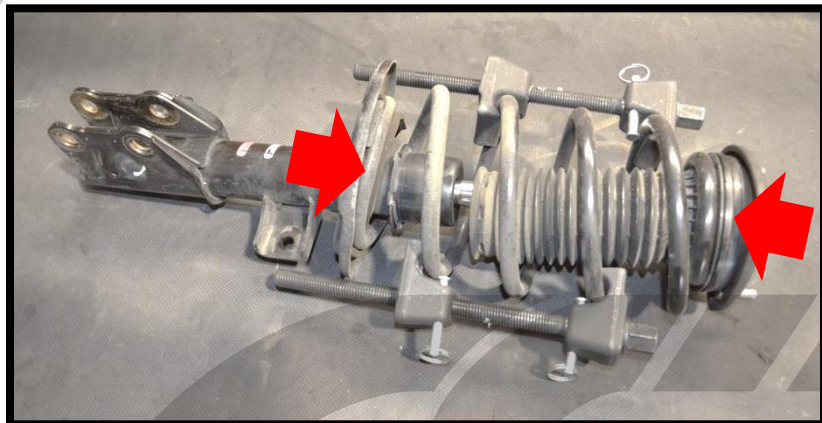

Figure 2g
- i) Compress the spring until it is no longer tight against the upper mount as shown in Figure 2g.
- i) Use a spring compressor to compress the spring (evenly on both sides) until it is no longer tight against the upper mount as shown in Figure 2g.